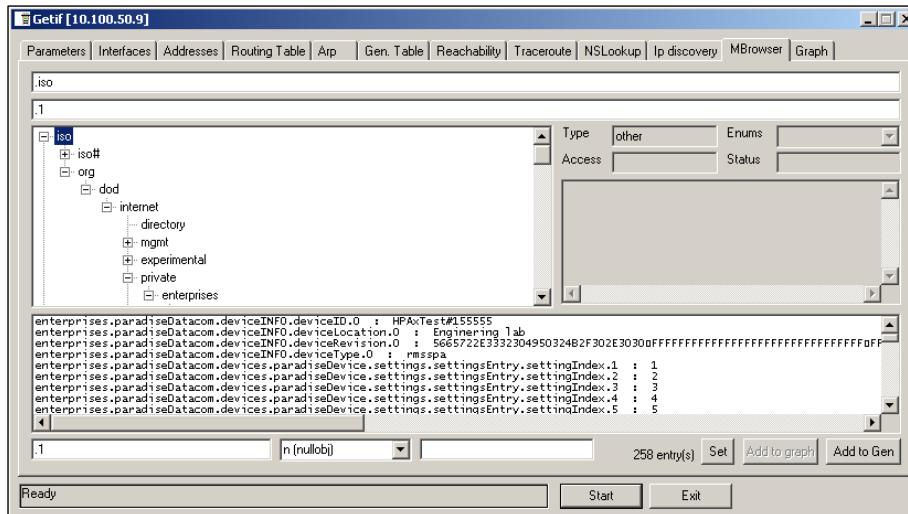

Figure 7-13: Getif MIBrowser window, with update data in output data box
6. See update data in output data box (**Figure 7-13**).